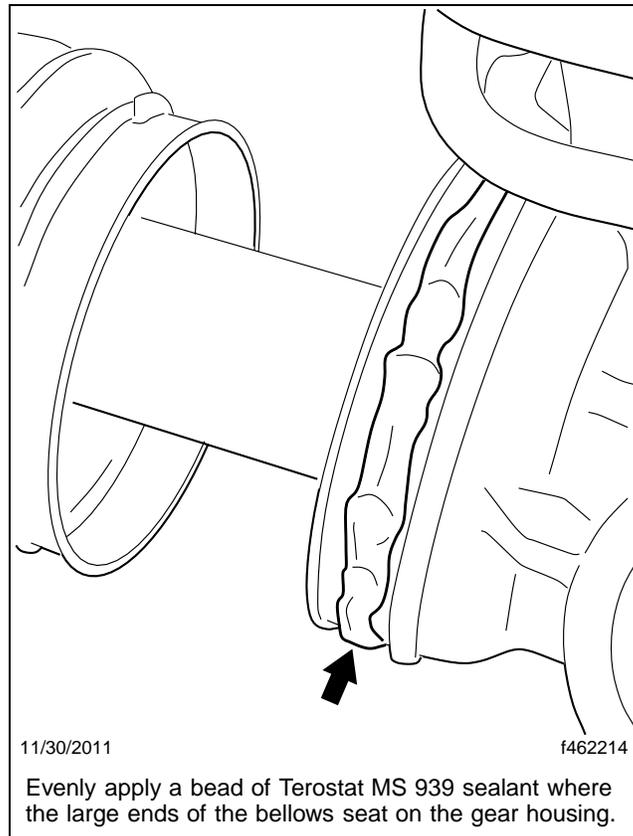

Fig. 25, Terostat MS 939 Sealant Application
6. Evenly apply Terostat MS 939 sealant to the outer diameter of the rack housing where the large ends of the bellows seat on the gear housing. See **Fig. 25**.